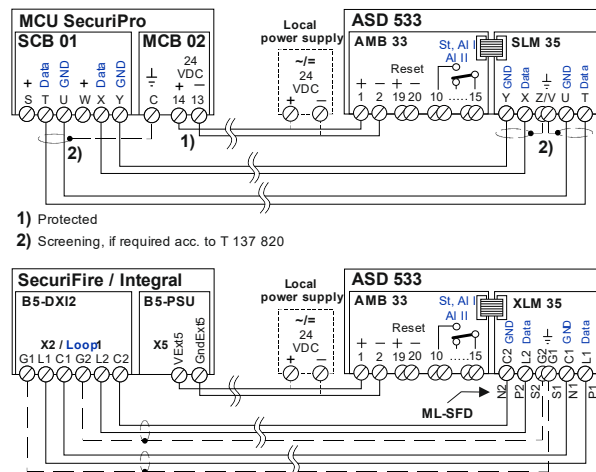

Fig. 38 Interconnection from XLM 35 / ML-SFD / SLM 35
- The interconnection and line routing between **SLM 35** and the SecuriPro, SecuriFire and Integral FACP is to be carried out in accordance with **Fig. 38** (X to X, Y to Y and X to L2, Y to C2, etc.).
- The interconnection and line routing between **XLM 35 / ML-SFD** and the SecuriFire and Integral FACP is to be carried out in accordance with **Fig. 38** (L1 to L1, C1 to C1, etc.).